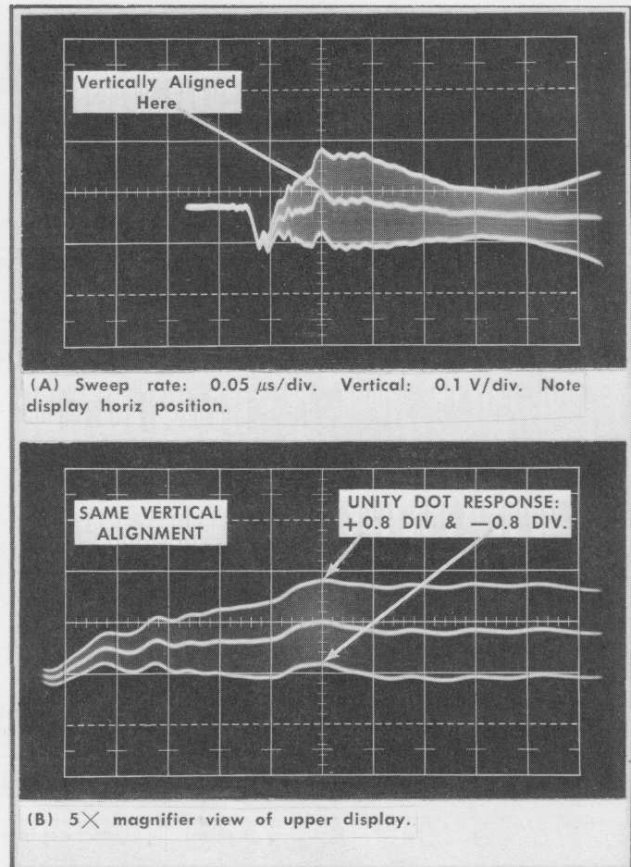

Fig. 6-9. 85 MHz test oscilloscope displays of Type S-2 double triggered output signal showing unity loop gain. TP121 or TP161, step 4.
a. Input signal amplitude to the sampling head must be the values stated earlier in Table 6-1. The test oscilloscope display of the sampling head output signals (Fig. 6-8 and Fig. 6-9) are to be adjusted for ± 0.2 volt when using a Type S-1, and for ± 0.08 volt when using a Type S-2.